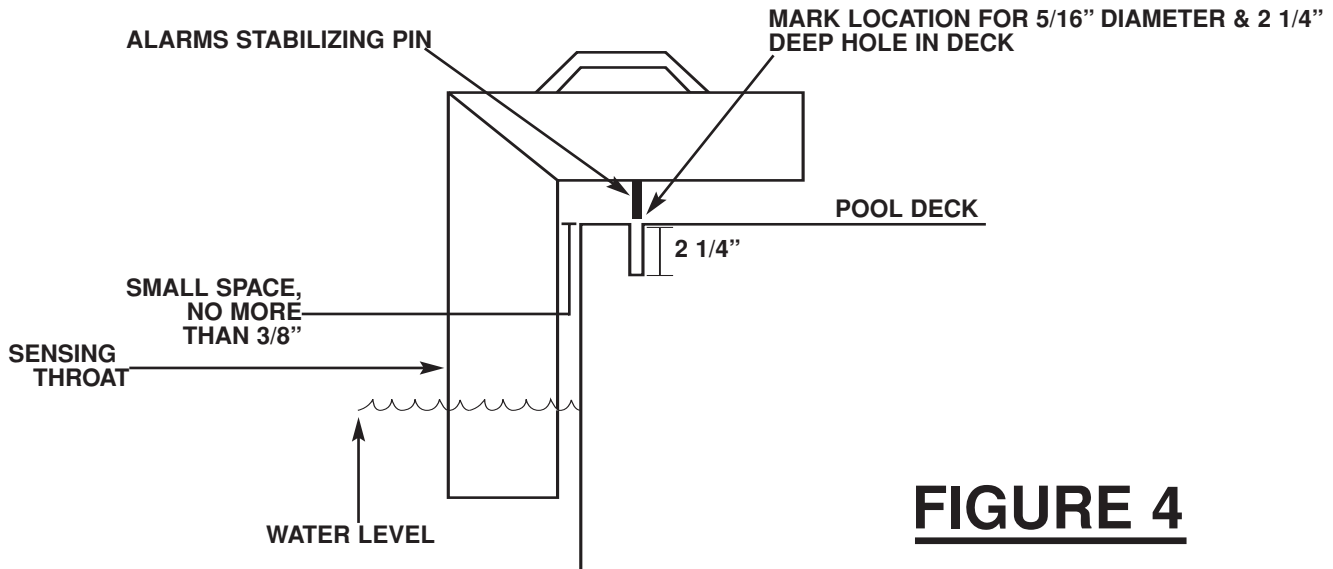

FIGURE 4
1. Position your pool alarm so that the sensing throat is in the water and the **ASP** is touching the deck, (Be sure to leave a small space between the sensing throat and the edge of your deck), Refer to Figure 4.